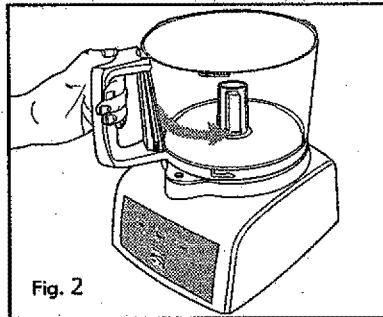

Fig. 2
3. To assemble, put the Bowl on the Base by aligning the Bowl handle with the unlock icon on the base. Turn the Bowl counterclockwise until it clicks into place (see Fig. 2 and 2a). The Bowl handle should now face straight to the center front.
5. Place the Bowl Cover Assembly onto the Bowl. Align the arrow on the Cover and the unlock icon on the Bowl (see Fig.2 and 2a). Turn the Cover counterclockwise towards the center front until it clicks.